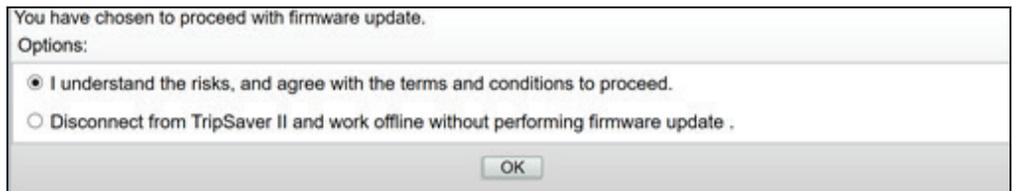

Figure 3. The firmware update Terms and Conditions dialog box.
STEP 7. A second dialog box will open. See Figure 3. Agree with the terms and conditions by selecting the appropriate option. Then, click on the **OK** button. To abort the firmware update, select the **Disconnect from the TripSaver II and work offline without performing firmware update** option and click on the **OK** button.